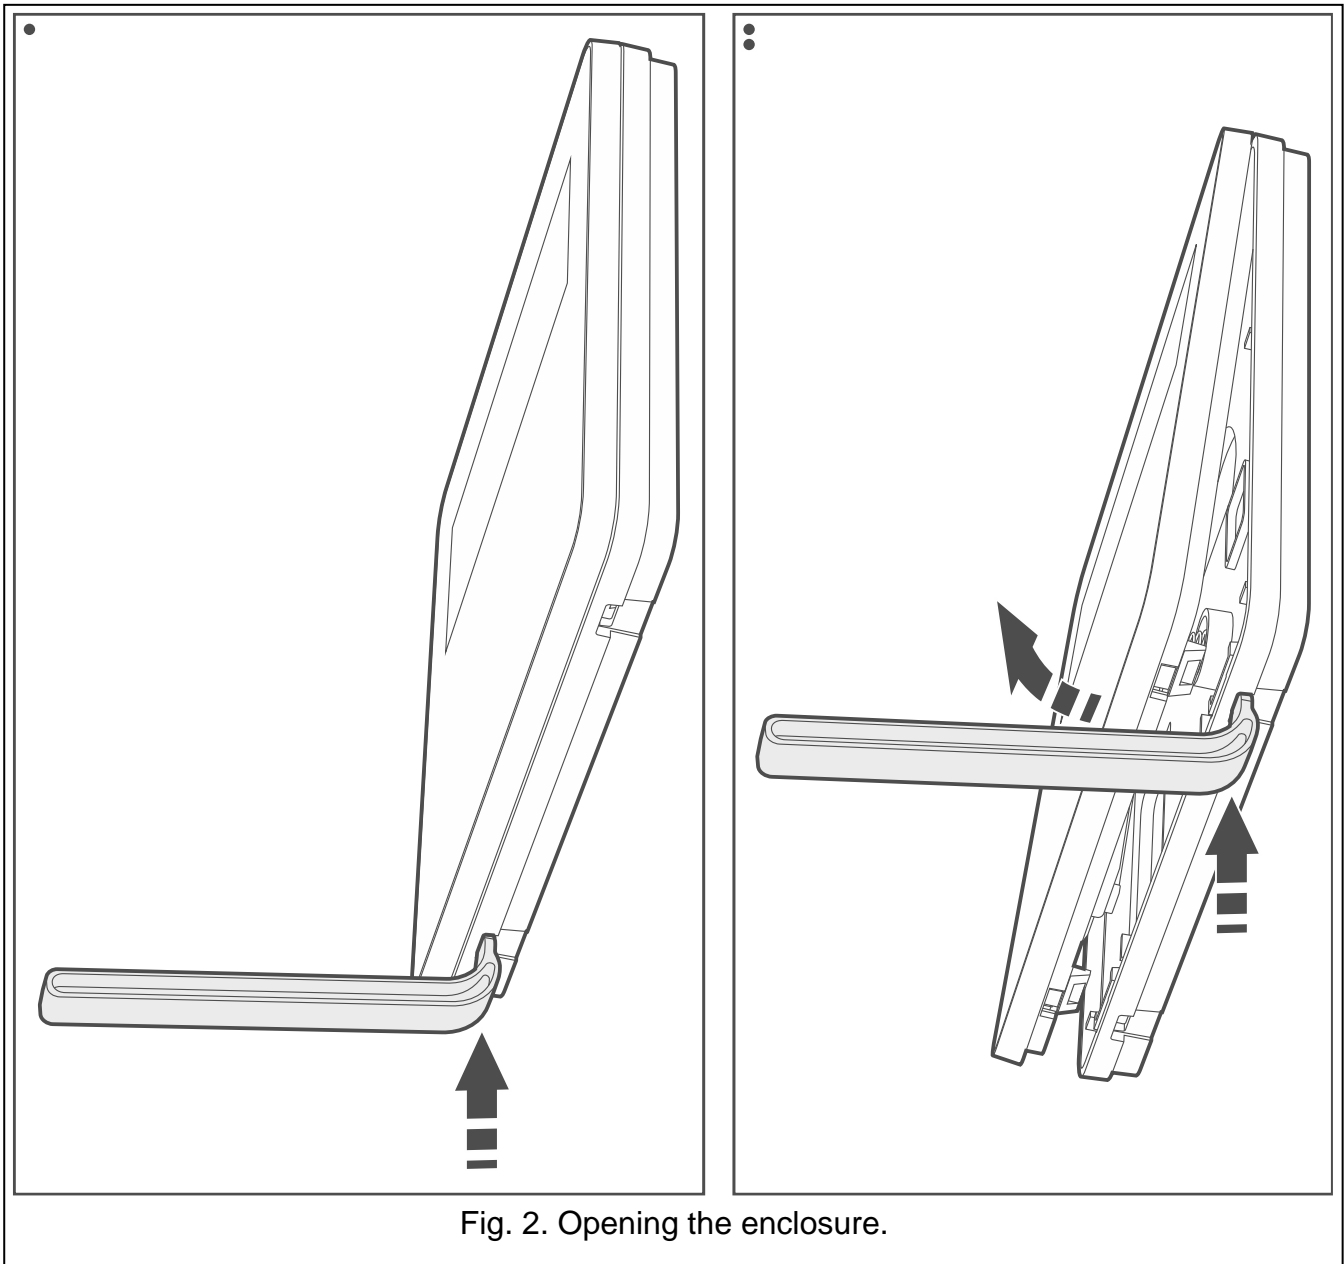

Fig. 2. Opening the enclosure.
1. Open the keypad enclosure (Fig. 2). The enclosure opening tool, shown in the illustration, is included in the keypad delivery set.